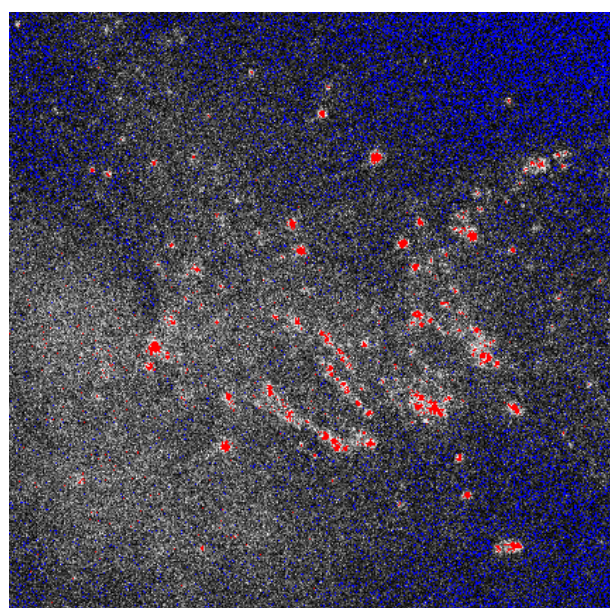

Fig. 50 Image with Range Indicator
- The scanned image appears in a false-color presentation (Fig. 50). If the image is too bright, it appears red on the screen. Red = saturation (maximum). If the image is not bright enough, it appears blue on the screen. Blue = zero (minimum).